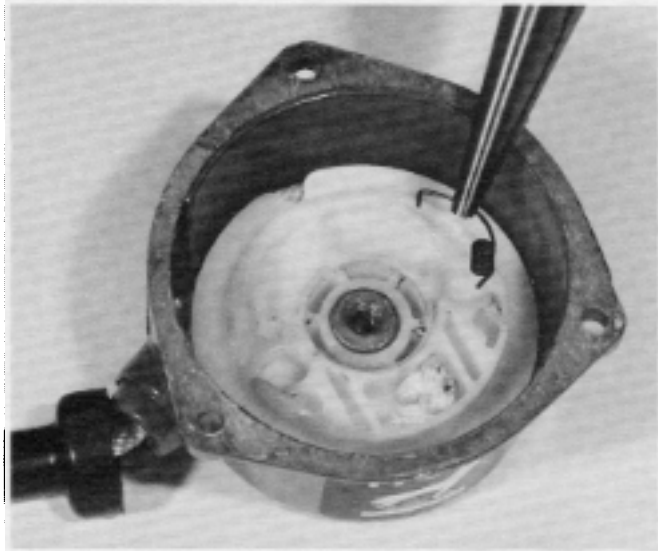

Figure 67
4. Remove the return spring. See Figure 67.